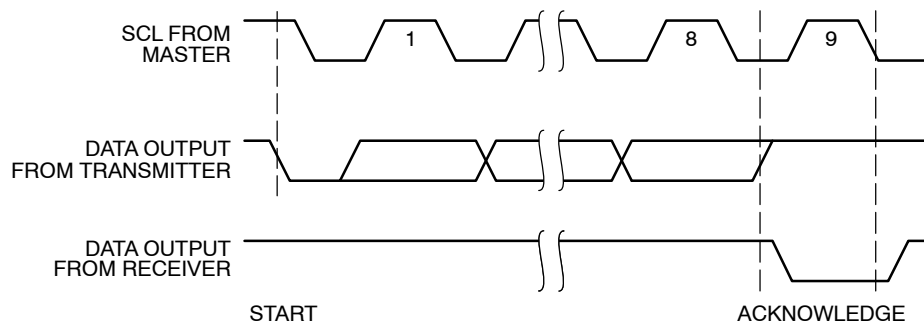
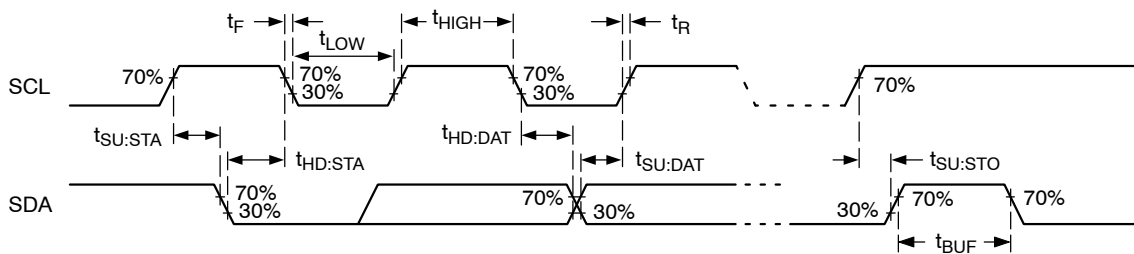

Figure 10. Acknowledge Timing
Figure 11. Bus Timing
- Timing reference points are set at 30%, respectively 70% of  $V_{CC}$ , as illustrated in Figure 11. Bus loading must be such as to allow meeting the  $V_{IL}$ ,  $V_{OL}$  as well as the various timing limits.
A matching Slave address is acknowledged (ACK) by the Slave by pulling down the SDA line during the 9th clock cycle (Figure 10). After that, the Slave will acknowledge all data bytes sent to the bus by the Master. When the Slave is the transmitter, the Master will in turn acknowledge data bytes in the 9th clock cycle. The Slave will stop transmitting after the Master does not respond with acknowledge (NoACK) and then issues a STOP. Bus timing is illustrated in Figure 11.